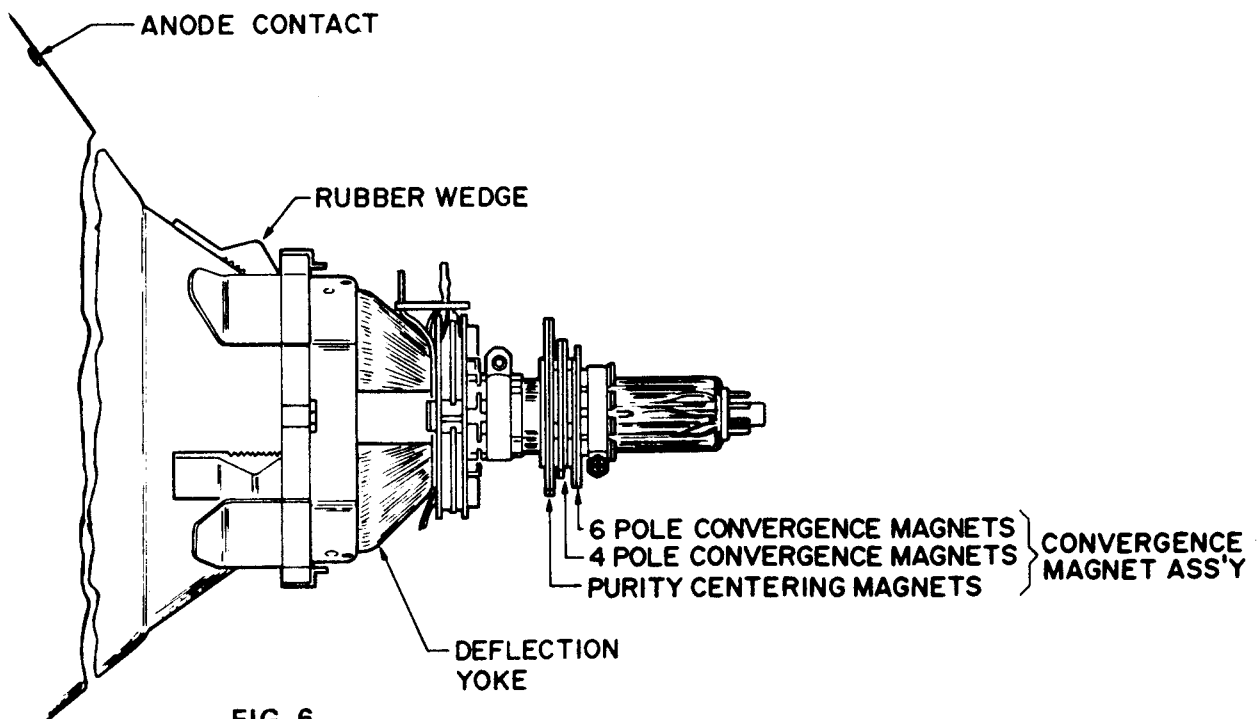

FIG. 6
- 2 A pair of 4-Pole Convergence Magnets is provided and adjusted to converge the blue and red beams (See Fig. 6). When the Pole opens to the left and right 45° symmetrically, the magnetic field maximizes. Red and blue beams move to the left and right (See Fig. 5). Variation of the angle between the tabs adjusts the convergence of red and blue vertical lines.
- 4 A pair of 6-Pole Convergence Magnets is also provided and adjusted to converge the magenta (red + blue) to green beams (See Fig. 6). When the Pole opens to the left and right 30° symmetrically, the magnetic field is maximized. Red and blue beams both move to the left and right (See Fig. 5). Variation of the opening angle adjusts the convergence of magenta to green vertical lines.